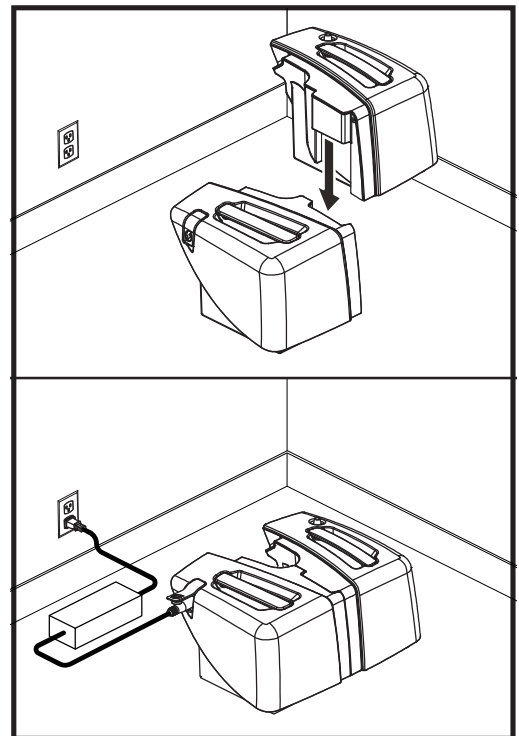

Figure 19. Battery Box Charging (Models 66 and 67)
**NOTE:** Models 66 and 67, both battery boxes can be removed from the scooter and then attached together for easy charging. See Figure 19.